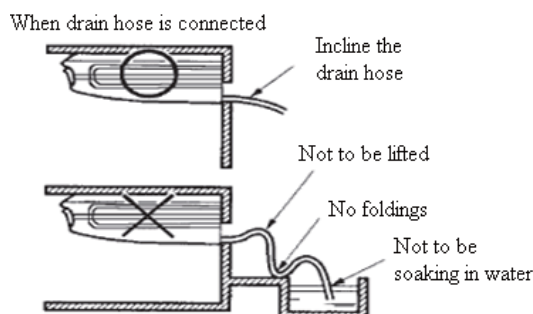

Figure 1-2-10
- Keep the drain pipe short and incline downwards at a gradient of at least 1/100 to prevent air pockets. (Refer to Figure 1-2-10)